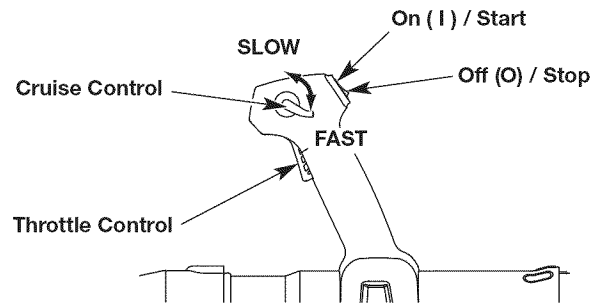
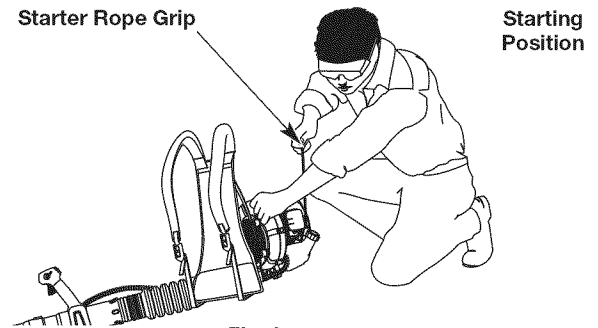

Fig. 7
Fig. 9
**WARNING:** Avoid accidentally starting the unit. To avoid serious injury, the operator and the unit must be in a stable position when pulling the starter rope (Fig. 9).
**NOTE:** There is no need to turn the unit on. The On/Off switch is in the ON (I) position at all times (Fig. 7).
4. Move the cruise control to the SLOW position (Fig. 7).
**NOTE:** Keep the cruise control in the SLOW position and **DO NOT** squeeze the throttle control until step 9 (Fig. 7).
6. **DO NOT** squeeze the throttle control (Fig. 7). Crouch in the starting position (Fig. 9).
7. **DO NOT** squeeze the throttle control. Pull the starter rope with a controlled and steady motion until the unit starts (Fig. 9).
9. Squeeze and hold the throttle control or move the cruise control to the FAST position (Fig. 7). Allow the engine to warm up for 30 to 60 seconds.
2. Press and hold the On/Off switch in the OFF (O) position until the engine comes to a complete stop (Fig. 7).
**NOTE:** There is no need to turn the unit on. The On/Off switch is in the ON ( I ) position at all times (Fig. 7).
**NOTE:** Keep the cruise control in the SLOW position and **DO NOT** squeeze the throttle control until step 11 (Fig. 7).
11. Squeeze and hold the throttle control or move the cruise control to the FAST position (Fig. 7). Allow the engine to warm up for 30 to 60 seconds.
- Use the cruise control to make continuous operation easier (Fig. 7).